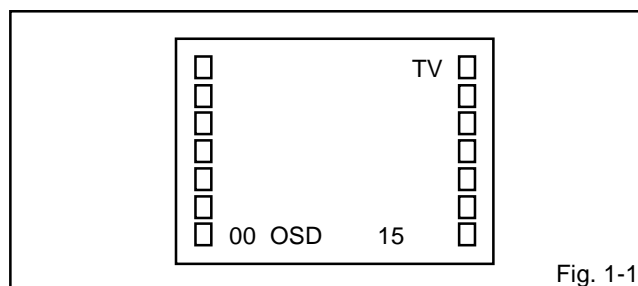

Fig. 1-1
Press the VOL. DOWN button on the set and the channel button **(9)** on the remote control for more than 1 second to appear the adjustment mode on the screen as shown in **Fig. 1-1**.
3. Activate the adjustment mode display of **Fig. 1-1** and press the channel button **(02)** on the remote control to select "RF AGC".
3. Activate the adjustment mode display of **Fig. 1-1** and press the channel button **(01)** on the remote control to select "CUT OFF".